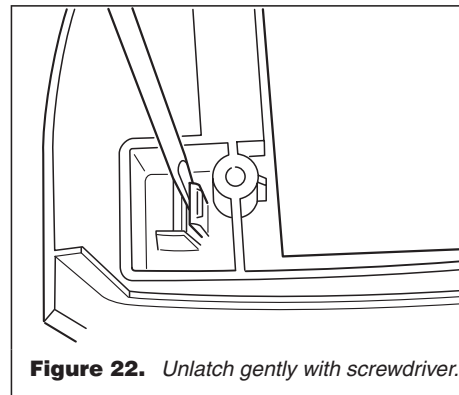

Figure 22. Unlatch gently with screwdriver.
4. Unlatch them gently with a screwdriver while pulling the electronics housing assembly out. See figure 22.